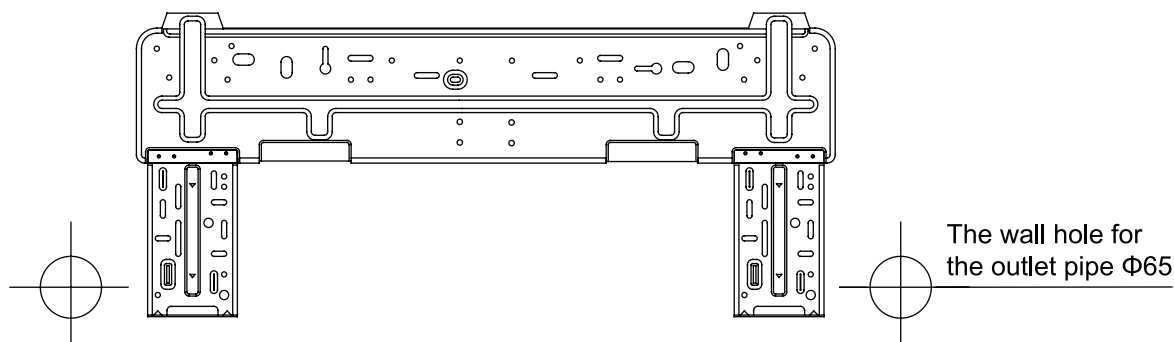

Fig.2.2
- (1) Make the piping hole (Φ 65mm) in the wall at a slight downward slant to the outdoor side. The center of the hole should be determined referring to Fig.2.2.
- (2) Insert the piping-hole sleeve into the hole to prevent the connected piping and wiring from being damaged when passing through the hole.